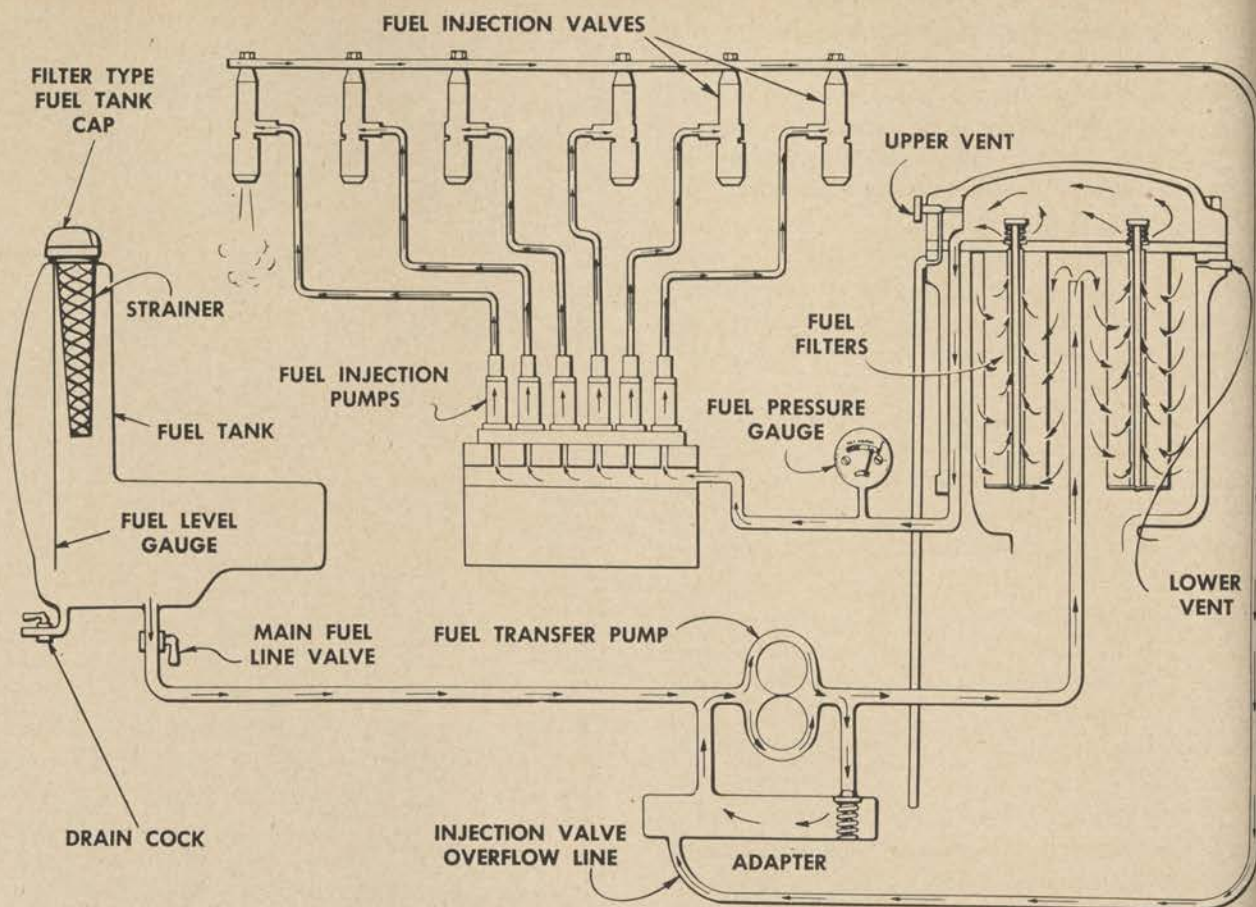

Figure 164. Day tank to injection valve fuel system.
(4) *Day tank to injection valve fuel system.* (a) After the fuel leaves the day tank, mounted on the flywheel end of the engine, it flows by gravity to the transfer pump, which delivers it to the lower chamber of the fuel filter housing, as shown in figure 164.